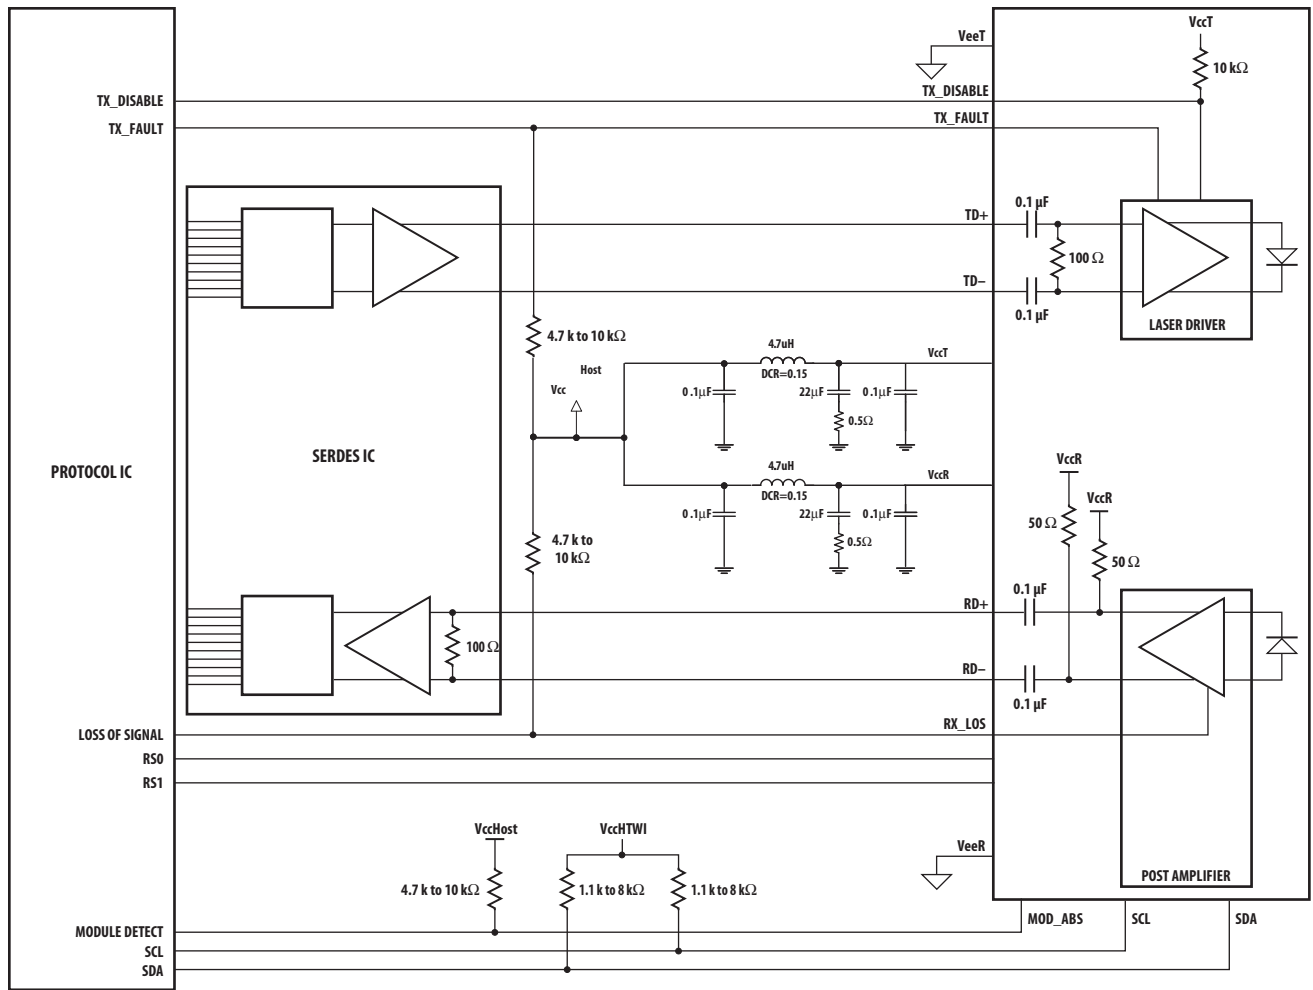

Figure 2. Typical application configuration
Figure 2 depicts the recommended interface circuit to link the AFCT-701SDZ to supporting physical layer ICs. Timing for the dedicated SFP+ control signals implemented in the transceiver are listed in Figure 5.
2. This is an open collector/drain output that on the host board requires a 4.7 kΩ to 10 kΩ pullup resistor to VccHost. See Figure 2.